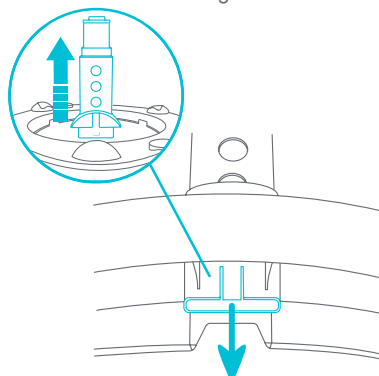

Fig. 13d
- **3 TABLE LEGS:** To remove, locate the tab underneath the base. Pull the tab towards you and remove the leg (Fig. 13d). Repeat for the other sides.